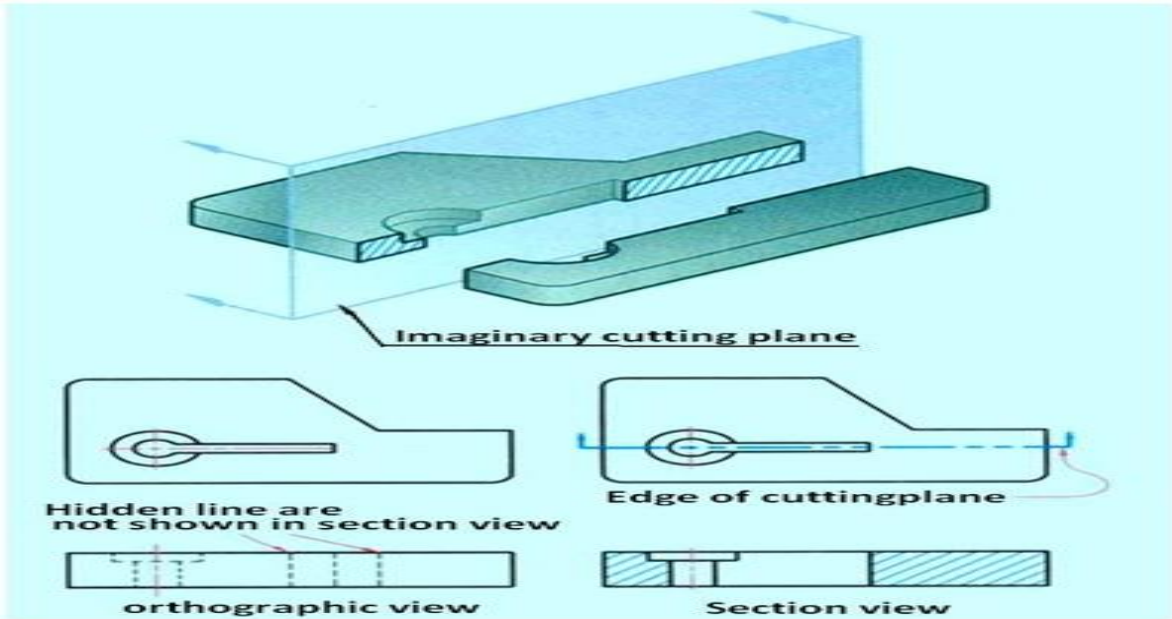

Figure 5 Illustration of the need of section view.
- As illustrated in figure 5, there are times, when a minimum number of hidden lines are needed to represent features other than the primary one shown by the section. In the figure, the through and through cavity may not be represented properly since it could be mistaken with a circular hole.